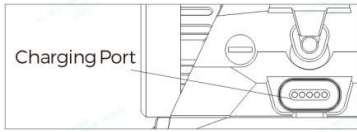

Figure 3
- 2) Connect the USB end of the dedicated USB magnetic cable to an external USB power source, and then connect the other end of the cable to the magnetic charging port of the DRS-NV as shown in Figure 3.